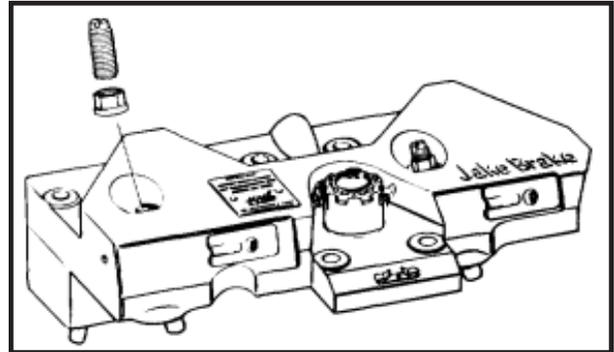

Fig. 3
1. Loosen the slave piston adjusting screw locknut and remove the slave piston adjusting screw (Auto-Lash) from housing (See Fig. 3).